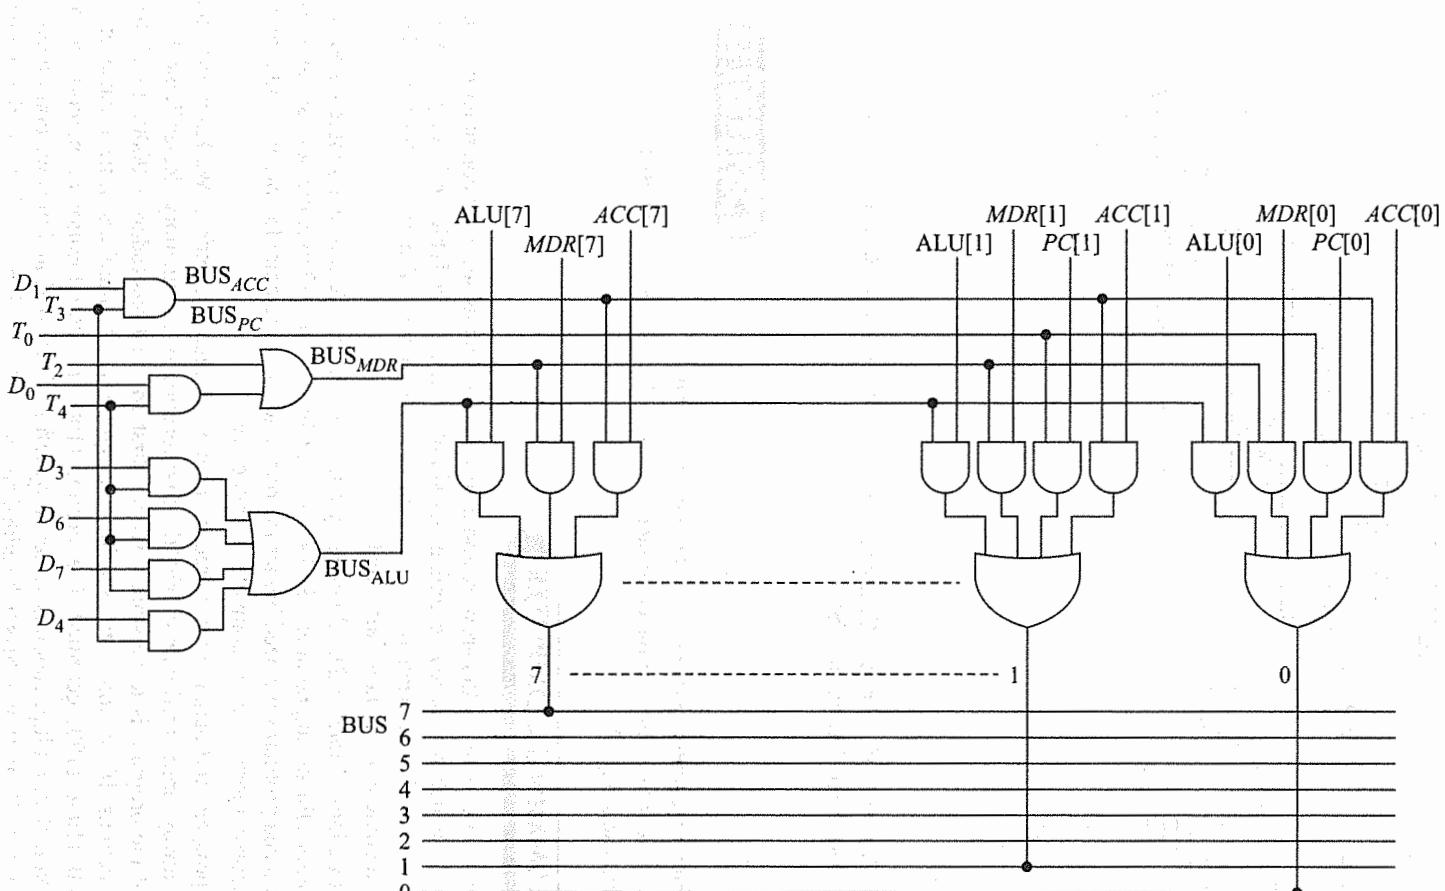

Fig. 16.7
**Solution** The controller developed from control equations discussed in this section is shown in Fig. 16.7. This is developed on multiplexer logic like Fig. 4.5 of Chapter 5. A tri-state bus control can also be designed similar to diagram shown in Fig. 14.26 of Chapter 14. There the *DISABLE* control input will be fed by complement of respective BUS activate signal, i.e. complement of  $\text{BUS}_{ACC}$ ,  $\text{BUS}_{PC}$  etc.